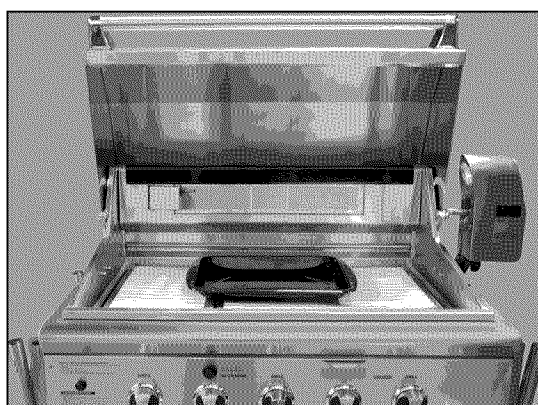

FIG. 37
4. Remove grates and top rack on the grill. Place bottom portion of broiler pan on ceramic rods, so meat drippings can be caught in pan. (Fig. 37).